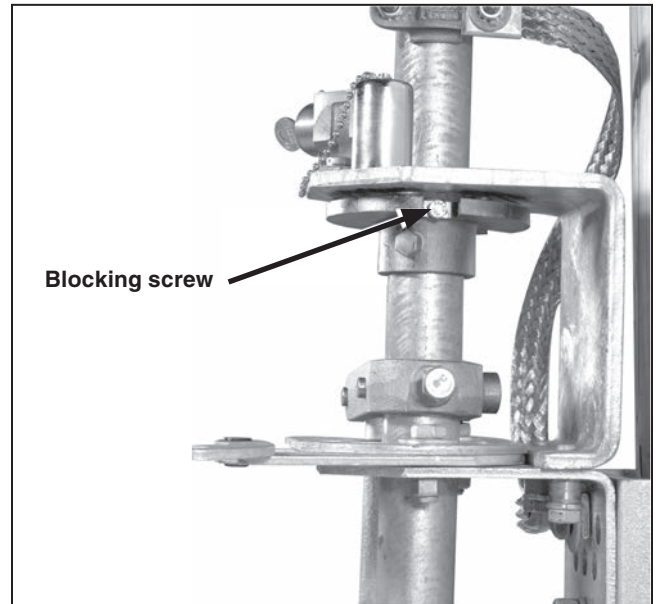

Figure 37. Blocking screw installed in the locking disc.
**STEP 35.** Block one of the two slots in the locking disc with the blocking screw provided. (The slot to be blocked depends on whether a locked-open or locked-closed arrangement is required.) See Figure 37.